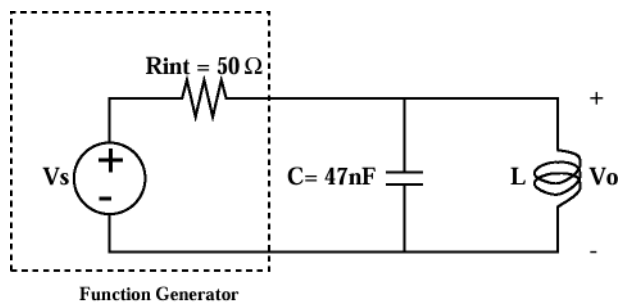

Figure 4: Parallel Resonant Bandpass Filter Circuit
We now turn our attention to the frequency response of the parallel resonant bandpass filter (BPF) circuit shown in Figure 4. Recall that a bandpass filter passes frequencies between two limits. The range of frequencies between the two limits is referred to as the passband of the filter and the difference between the limiting frequencies as the **bandwidth** Δf of the filter.
The magnitude of the transfer function of this circuit is given by Equation 8 and the resonance frequency f_r by Equation 9. Resonance is a physical phenomenon in which stored energy oscillates between two energy storage elements. In the BPF circuit shown in Figure 4, the magnetic energy stored in the inductor and the electric energy stored in
2. You will now manually determine the frequency response of the bandpass circuit in Figure 4. Connect the function generator across the parallel combination of the 47 nF capacitor and the inductor you made in Lab 5 (note that you will have to do this twice, once for each student's inductor). Reset the function generator by cycling the power. Set the amplitude (displayed) to $1.0 V_{pp}$. Set the frequency to the values shown in Table 2 and record the AC voltage measured across the parallel combination of inductor and capacitor.
4. Determine the frequency response of the bandpass circuit in Figure 4 using VEE.
Simulate the bandpass filter circuit shown in Figure 4 using PSpice. Be sure to include the internal resistance of the function generator. Obtain a plot of the frequency response magnitude for the bandpass filter circuit, and compare your simulation results to theory and to your measured frequency response.